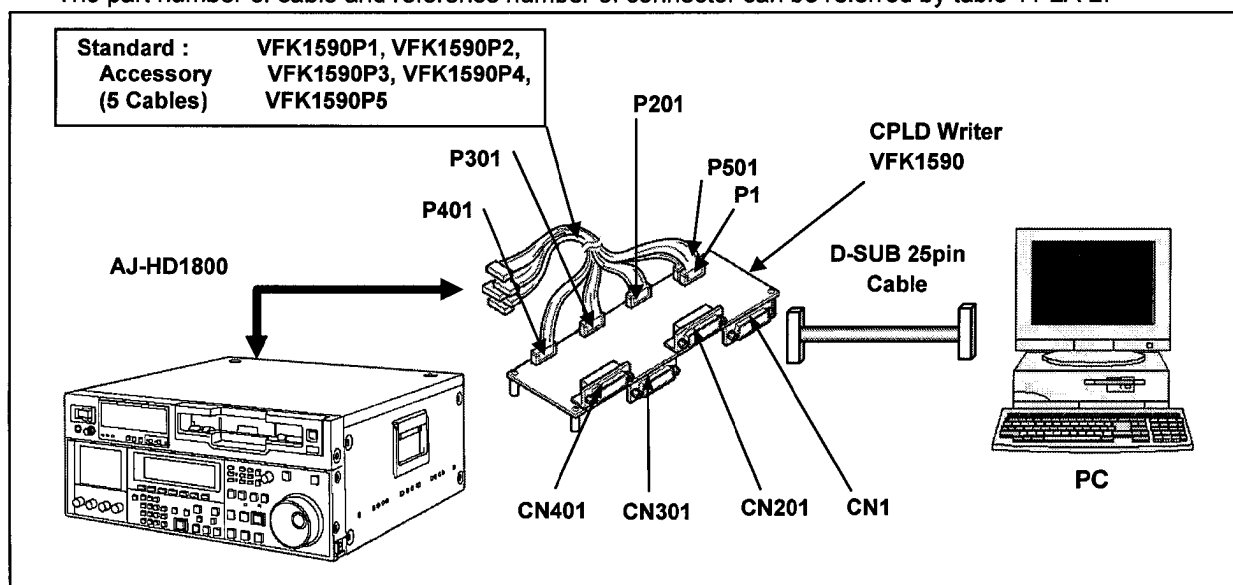

Figure 11-2A-1
1. Connect the D-sub cable between the CPLD writer and personal computer as shown in figure 11-2A-1. The reference number of D-sub connector can be referred by table 11-2A-2.
2. Connect the CPLD writer cable to the connector on the CPLD writer (VFK1590) as shown in figure 11-2A-1. The part number of cable and reference number of connector can be referred by table 11-2A-2.